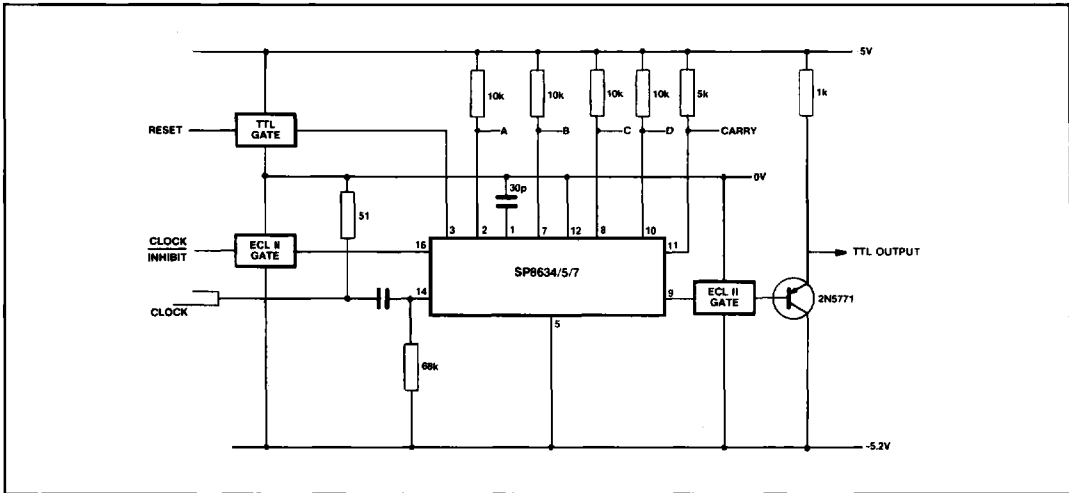
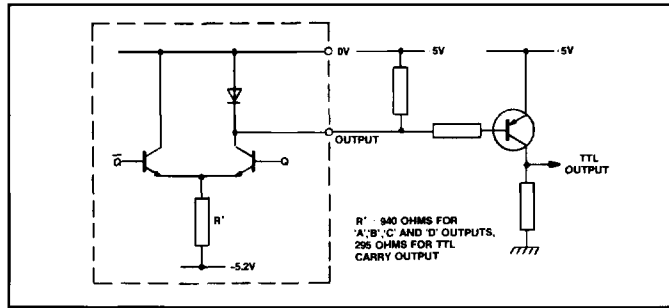

Fig.6 Typical application configuration
Fig.8 TTL output buffering for increased fan-out
6. The output (pins 2, 7, 8, 10 and 11) are current sources and can be made TTL compatible by addition of 10k and 5k (pin 11) to +5V. See Fig.6. This gives a fan-out of 1. This can be increased by buffering the output with a PNP emitter follower. See Fig.8.